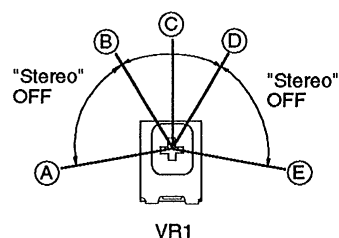

Fig. 4
2. Adjust VR 1 until stereo indicator lights up. Fix the arm of VR 1 as shown in Fig. 4.